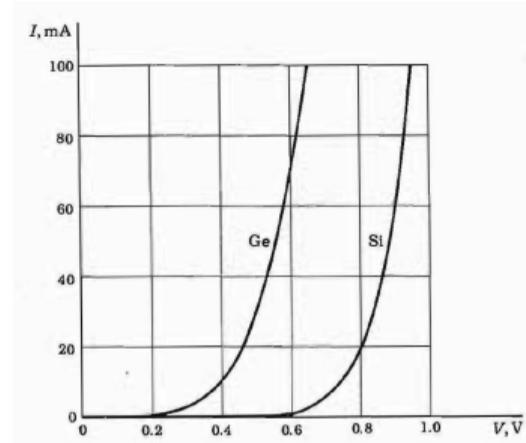

Fig. 3.13: Forward VI characteristics of Si and Ge; adapted from Millman, J., & Halkias, C. C. Integrated Electronics: Analog and Digital Circuits and Systems.
- **Fig. 3.13:** Comparative  $I$ - $V$  of 1N270 (Ge) vs 1N3605 (Si).